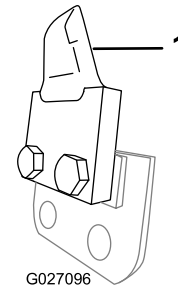
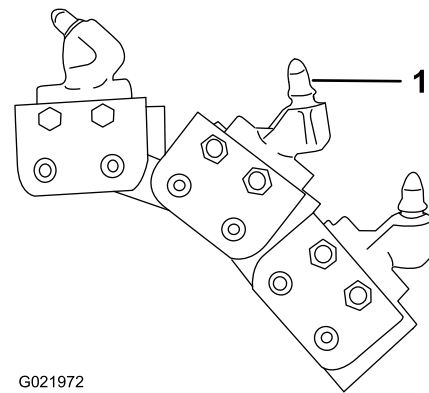

Figure 38
Figure 39
- **Shark teeth (Figure 38) or Rock and Frost teeth (Figure 39)** are best for cutting ground that is very hard, rocky, or frozen; it is also used for cutting through asphalt.